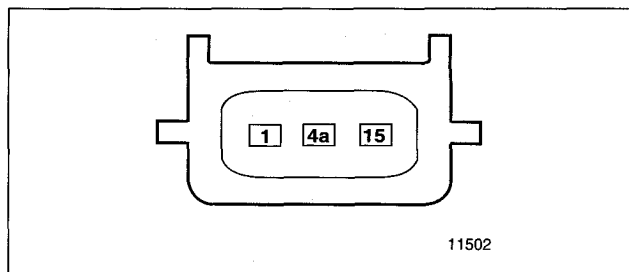

Fig. 6. Ignition coil harness connector terminal identification for 6-cylinder engine.
2. Disconnect harness connector from coil. Connect multimeter between terminal 15 (+) in connector and ground. See Fig. 6.